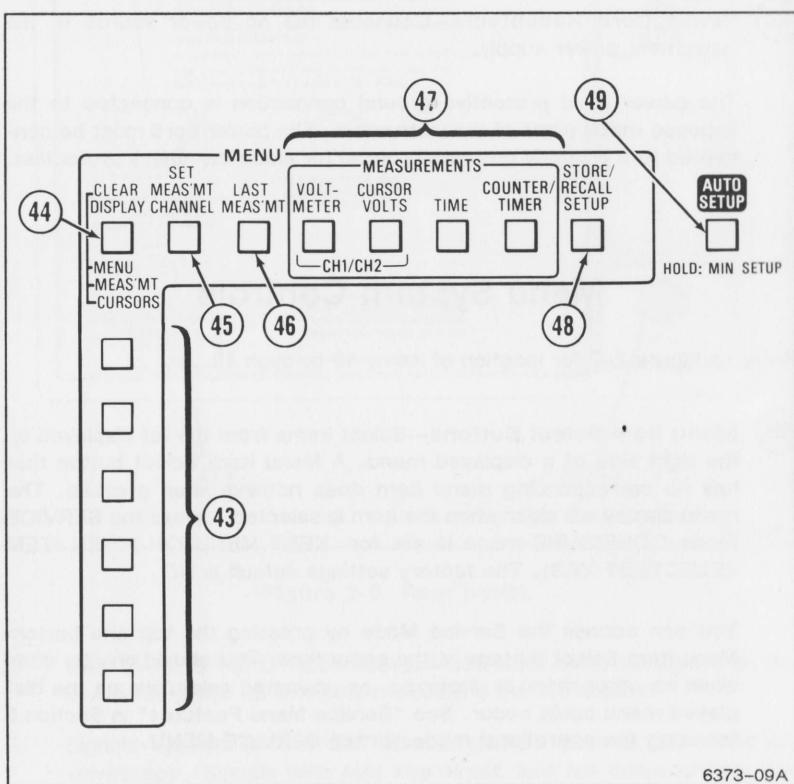

Figure 2-7. Menu controls.
Refer to Figure 2-7 for location of items 43 through 49.
- ⑬ ④³ Menu Item Select Buttons—Select items from the list displayed on the right side of a displayed menu. A Menu Item Select button that has no corresponding menu item does nothing when pressed. The menu display will clear when the item is selected (unless the SERVICE mode CONFIGURE menu is set for: KEEP MENU ON WHEN ITEM SELECTED? YES). The factory settings default is NO.